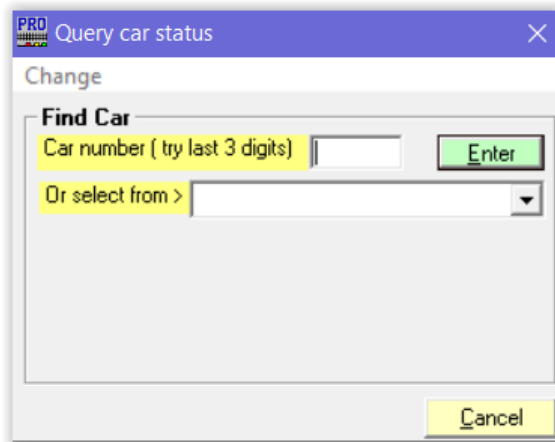

Figure 10-3b
- i. On the ProTrak Operations Toolbar, click on "Exceptions" then select "Query car status" from the dropdown list. This opens the "Query car status" window (Figure 10-3b).